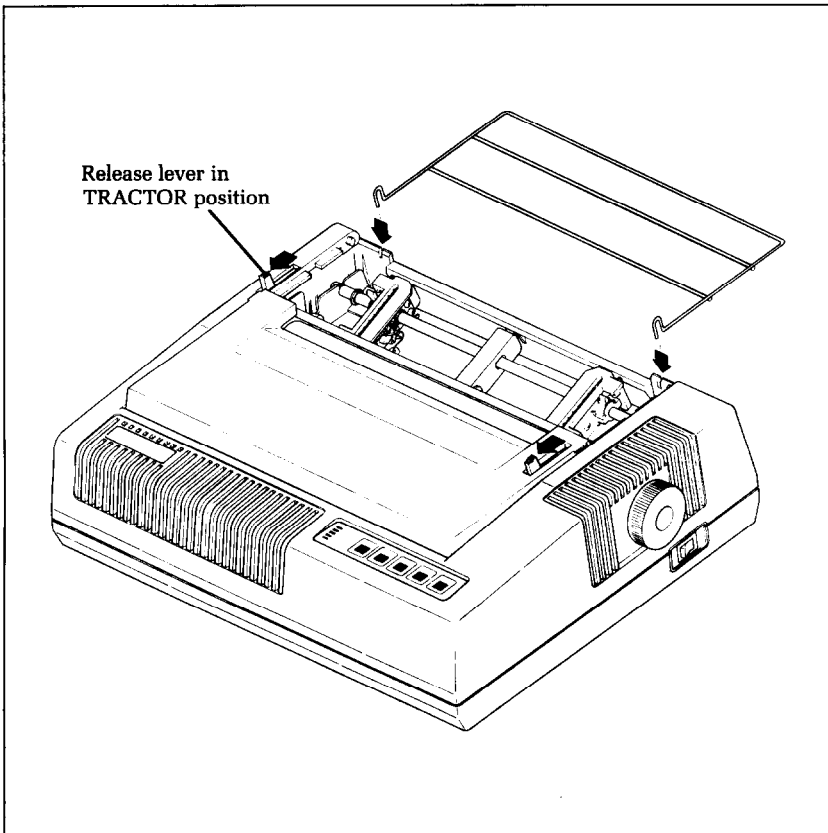

Figure 1-6. The wire paper guide keeps continuous paper away from the cables.
2. Attach the wire paper guide to the rear of the upper case, as shown in Figure 1-6.